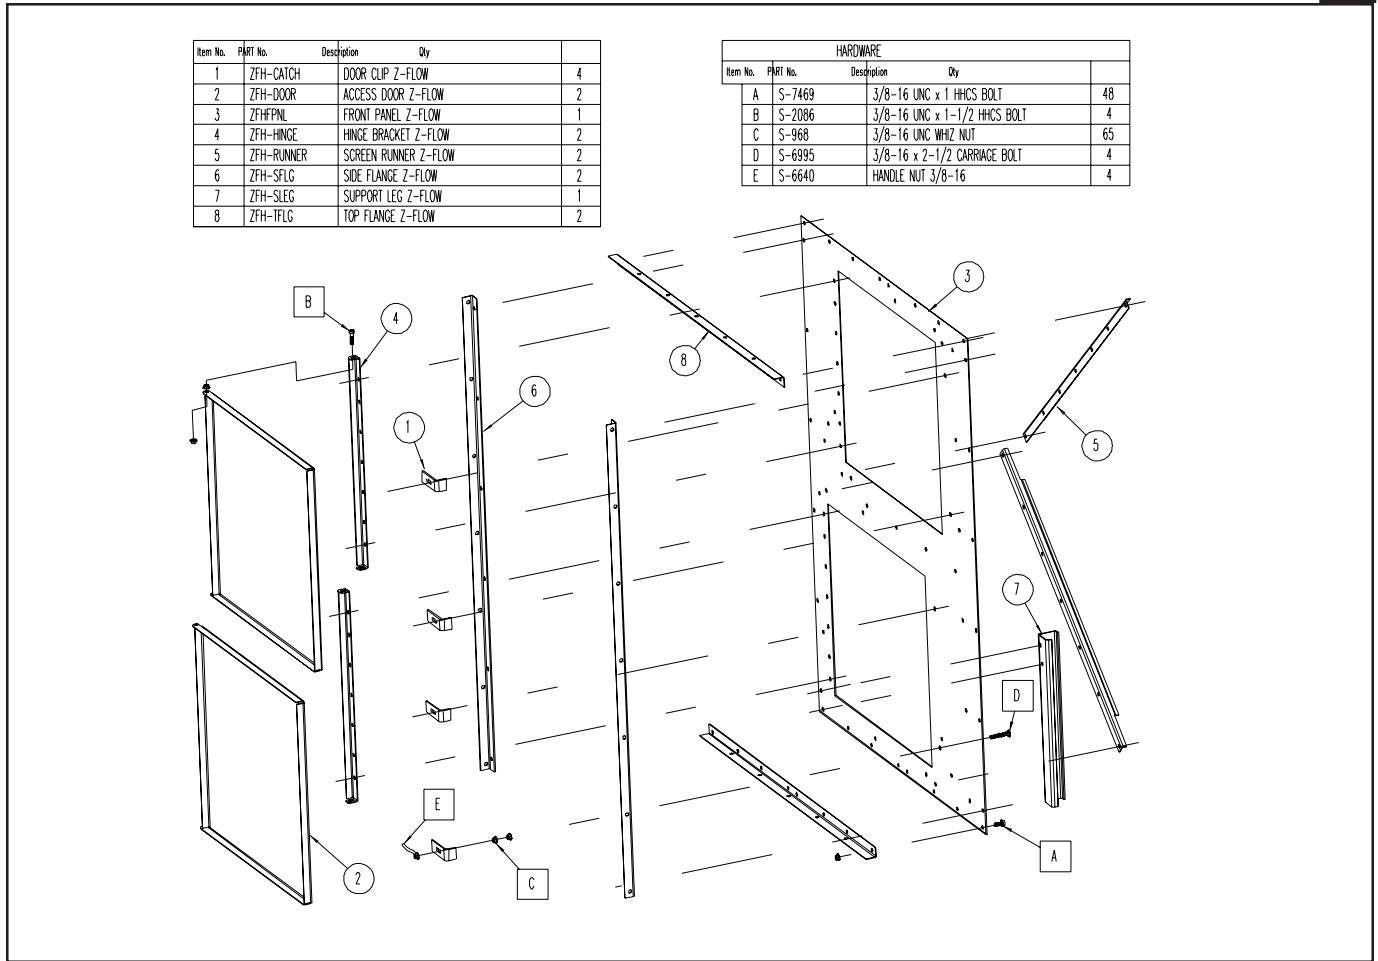

FIGURE 18
*(Refer to Figure 18 for hole alignment.)*
1. Install the top Top Flange (8) and the top Screen Runner (5) at the same time because they share a common bolt. The Top Flange (8) will install to the front of the Front Panel (3) and the Screen Runner (5) to the back of the Front Panel. Use 3/8" x 1" HHCS Bolts with Whiz Nuts to fasten together.
2. Install the Left Side Flange (6), the bottom Top Flange (8) and the Support Leg (7) at the same time because they share common bolts. Attach the Side Flange (6) to the front side of the Front Panel (3) and Support Leg (7) to the back bottom left of the panel using the same bolt. Now, attach the bottom Top Flange (8) to the bottom of the Front Panel (3) and place bottom left bolt through both the Flange and